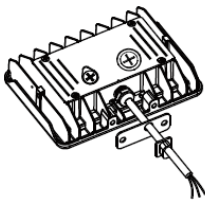

Figure 7
- 3: Fish cable through mounting plate. (Figure 7)